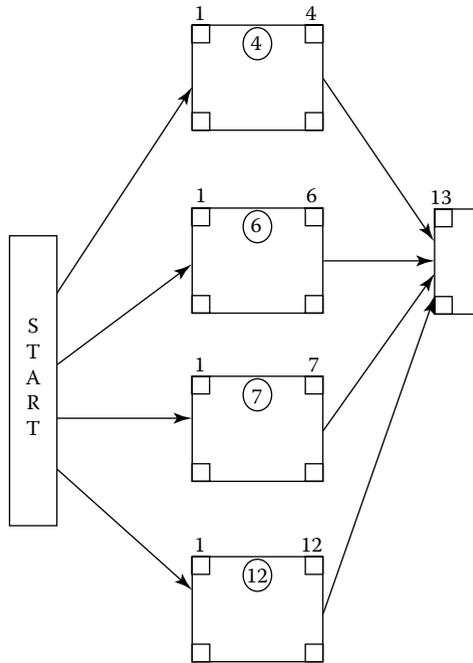

Figure 12.36 A “column” of activities.
A condition can occur that will require you to perform manual resource allocation. Remember that you formed your network's logic on a very important assumption: assume unlimited resources. This assumption may require you now to apply resource allocation during CPA. Very often, you will find that a number of activities can all start at the same time. This causes a 'column' of activities with the same early start but with perhaps different early finish dates (Figure 12.36).
In this special case (Figure 12.36), these four activities can all begin at the same date (1) and their contribution to the critical path would be *only* the '12' days — that is, the duration of the bottom activity.